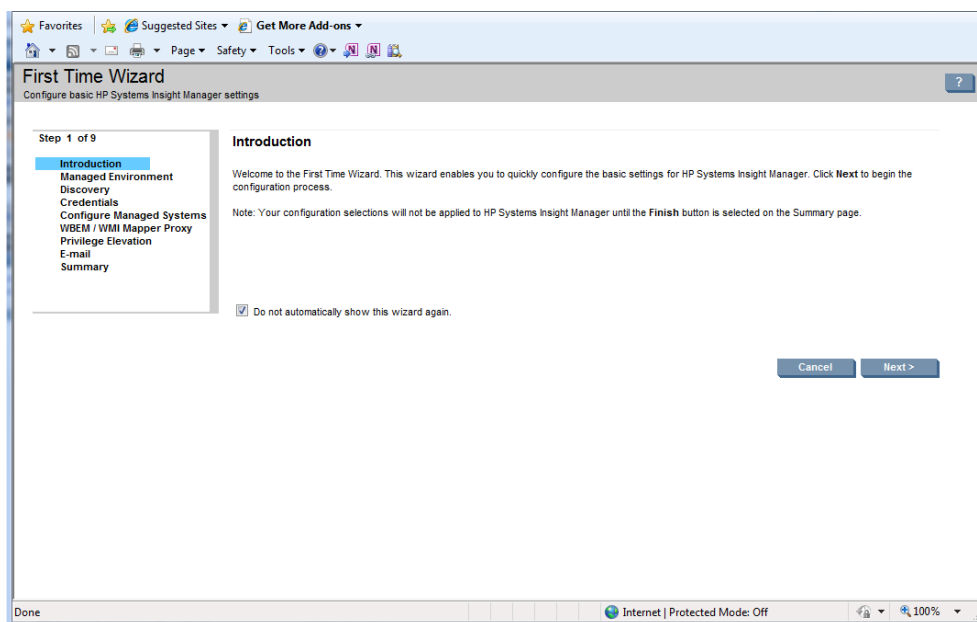

Figure 4 - First Time Wizard
- Figure 4 - First Time Wizard 8